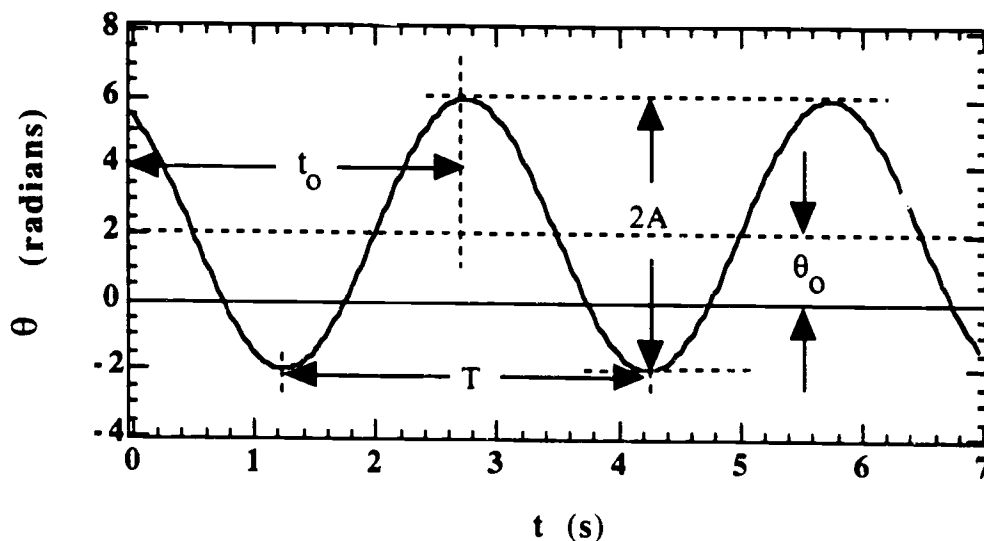

Figure 2: Cosine wave given by Equation 7 where  $\theta_0 = 2.0$  radians,  $A = 4.0$  radians,  $t_0 = 2.8$  s, and  $T = 3.0$  s.
In Equation 7,  $\theta_o$ ,  $A$ ,  $t_o$ , and  $T$  are all constants of the motion for a given physical situation and an example is shown in Figure 2. When taking measurements from such a cosine curve, it is easiest to measure  $2A$  first and then halve that value to determine  $A$ . Finding  $\theta_o$  involves locating the line of symmetry of the cosine curve, and then measuring the displacement of that line from the zero angular position on the plot. Both the period  $T$  and the time offset  $t_o$  are measured with respect to the peaks or troughs of the cosine wave.
The period  $T$  is the period of time required for the cosine wave to repeat itself (refer to Figure 2). In Part I, you will first experimentally measure the period  $T_{disk}$  of the pendulum. Then in Part VI, you will calculate a predicted value  $T_{pred}$  of the pendulum based on two measurements - the moment of inertia  $I_{disk}$  of the pendulum's disk, and the torsion constant
5. The angular position  $\theta$  will be displayed on the screen as a function of time  $t$ . The curve should look like a smooth cosine wave described by Equation 7 and illustrated in Figure 2. If your data points don't follow a smooth cosine wave, find out what went wrong, and try again. Your TA will be glad to assist you if necessary.
7. Make a printout of the graph of  $\theta$  versus  $t$ . Mark this printout to indicate where you extracted your values of  $A$ ,  $T_{disk}$ ,  $t_0$ , and  $\theta_0$  (See Figure 2.)